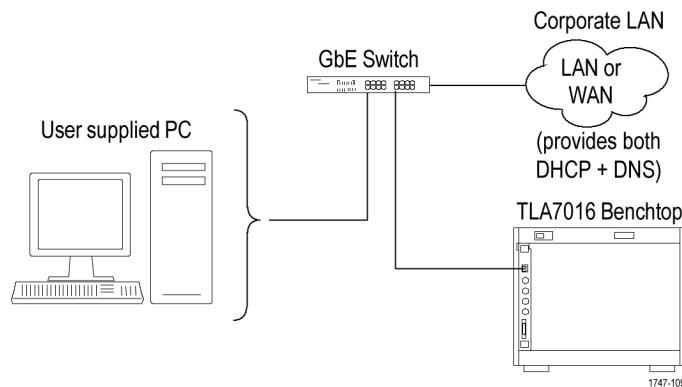

Figure 15: Benchtop mainframe corporate LAN setup (up to six modules)
1. Make the cable interconnections. (See Figure 15.)